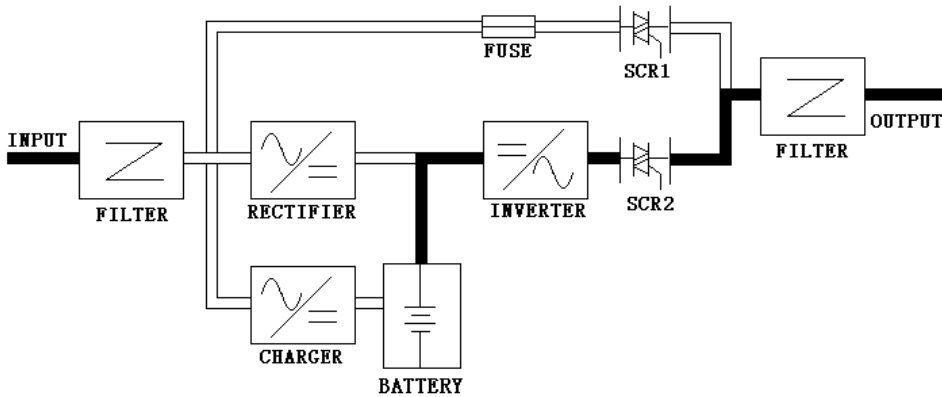

Fig37
2). UPS running when main power is off. As fig 37